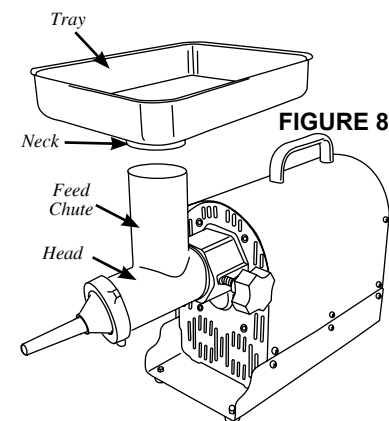

FIGURE 8
7. Insert the neck of the **Tray** into the **Feed Chute** (Figure 8).